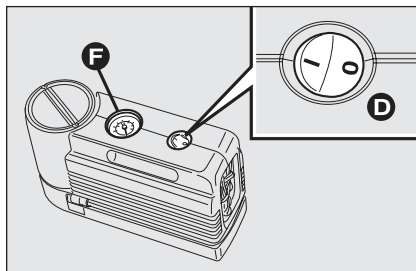
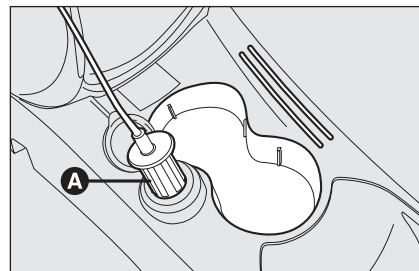

fig. 5
fig. 6
- make sure the compressor switch **D-fig. 5** is set to 0 (off), start the engine and fit plug **A-fig. 6** into the nearest current outlet and then turn on the compressor by setting switch **D-fig. 5** to **I** (on). Inflate the tyre to the pressure specified in paragraph "Inflation pressure" in section "Technical Specifications". Check tyre pressure on gauge **F-fig. 5** with compressor off to obtain precise reading;